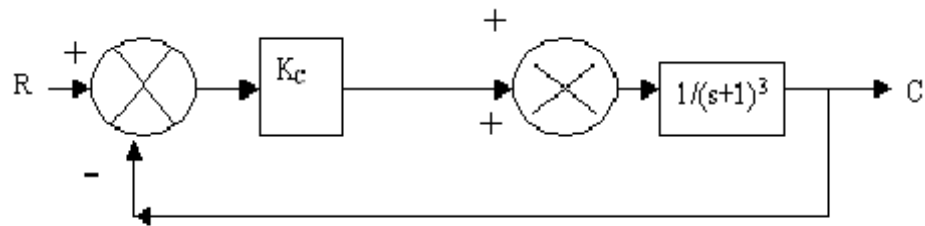

Figure 5
5. In the control system shown in the figure 5, find the value of  $K_c$  for which the system is on the verge of instability. The controller is replaced by a PD controller, for which the transfer function is  $K_c(\tau_D s + 1)$ . If  $K_c = 10$ , determine the range of  $\tau_D$  for which the system is stable. [16]